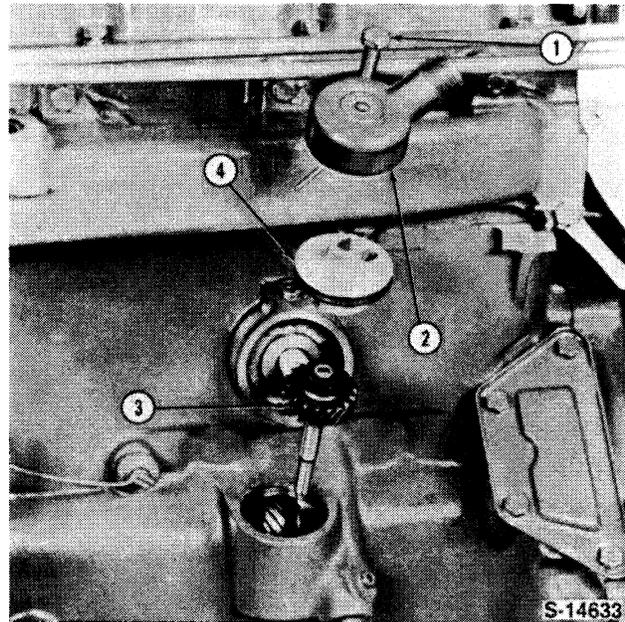

Figure 27
3. Slacken the retaining bolt then withdraw the drive shaft adapter assembly and the oil pump drive gear, Figure 27.